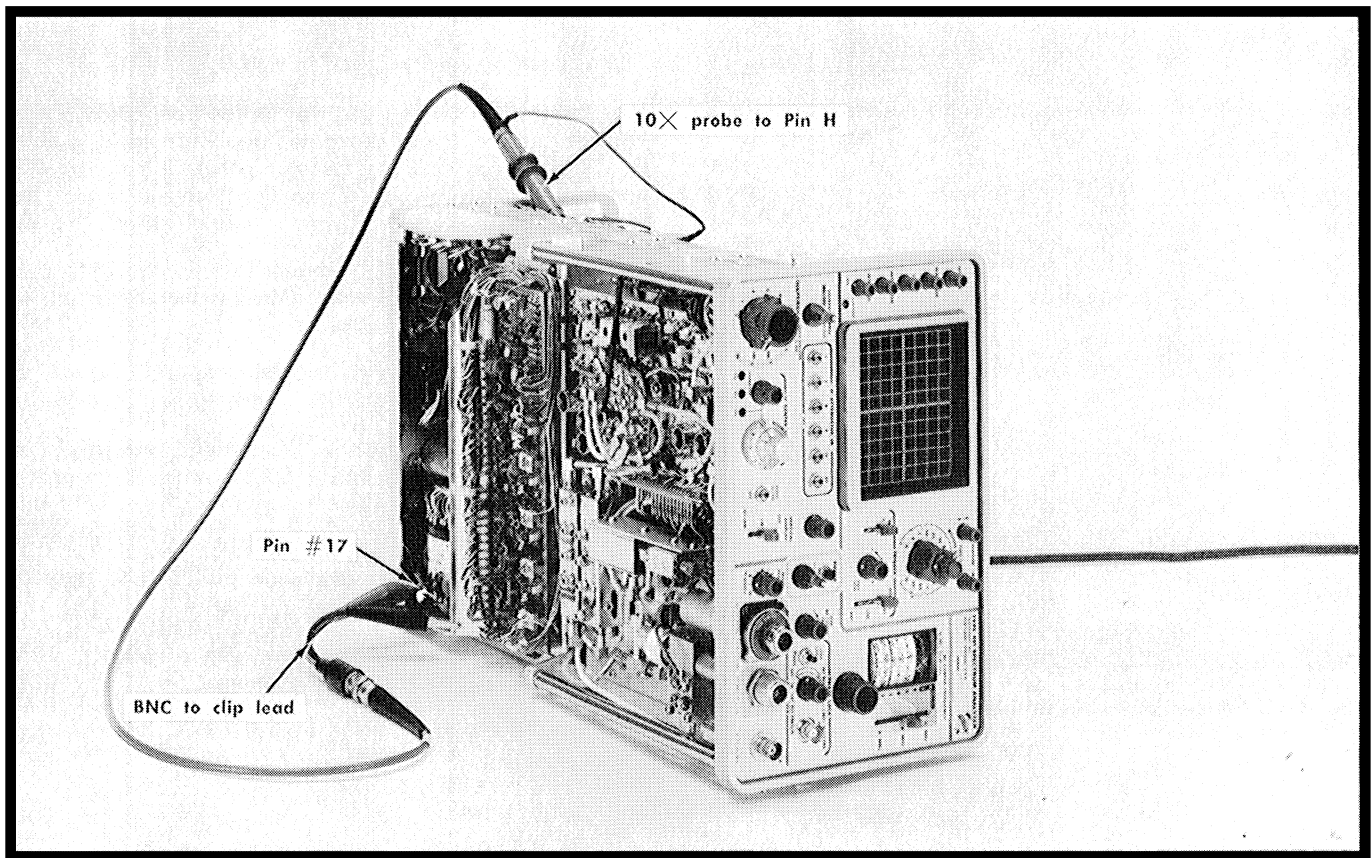

Fig. 6-13. Setup to check LINE triggering operation.
- Equipment setup is shown in Fig. 6-13.
- Turn the POWER switch OFF, then connect a 10X test probe and a BNC to clip lead adapter between pin H of the Vertical Amplifier circuit board and pin 17 of the power transformer. See Fig. 6-13.